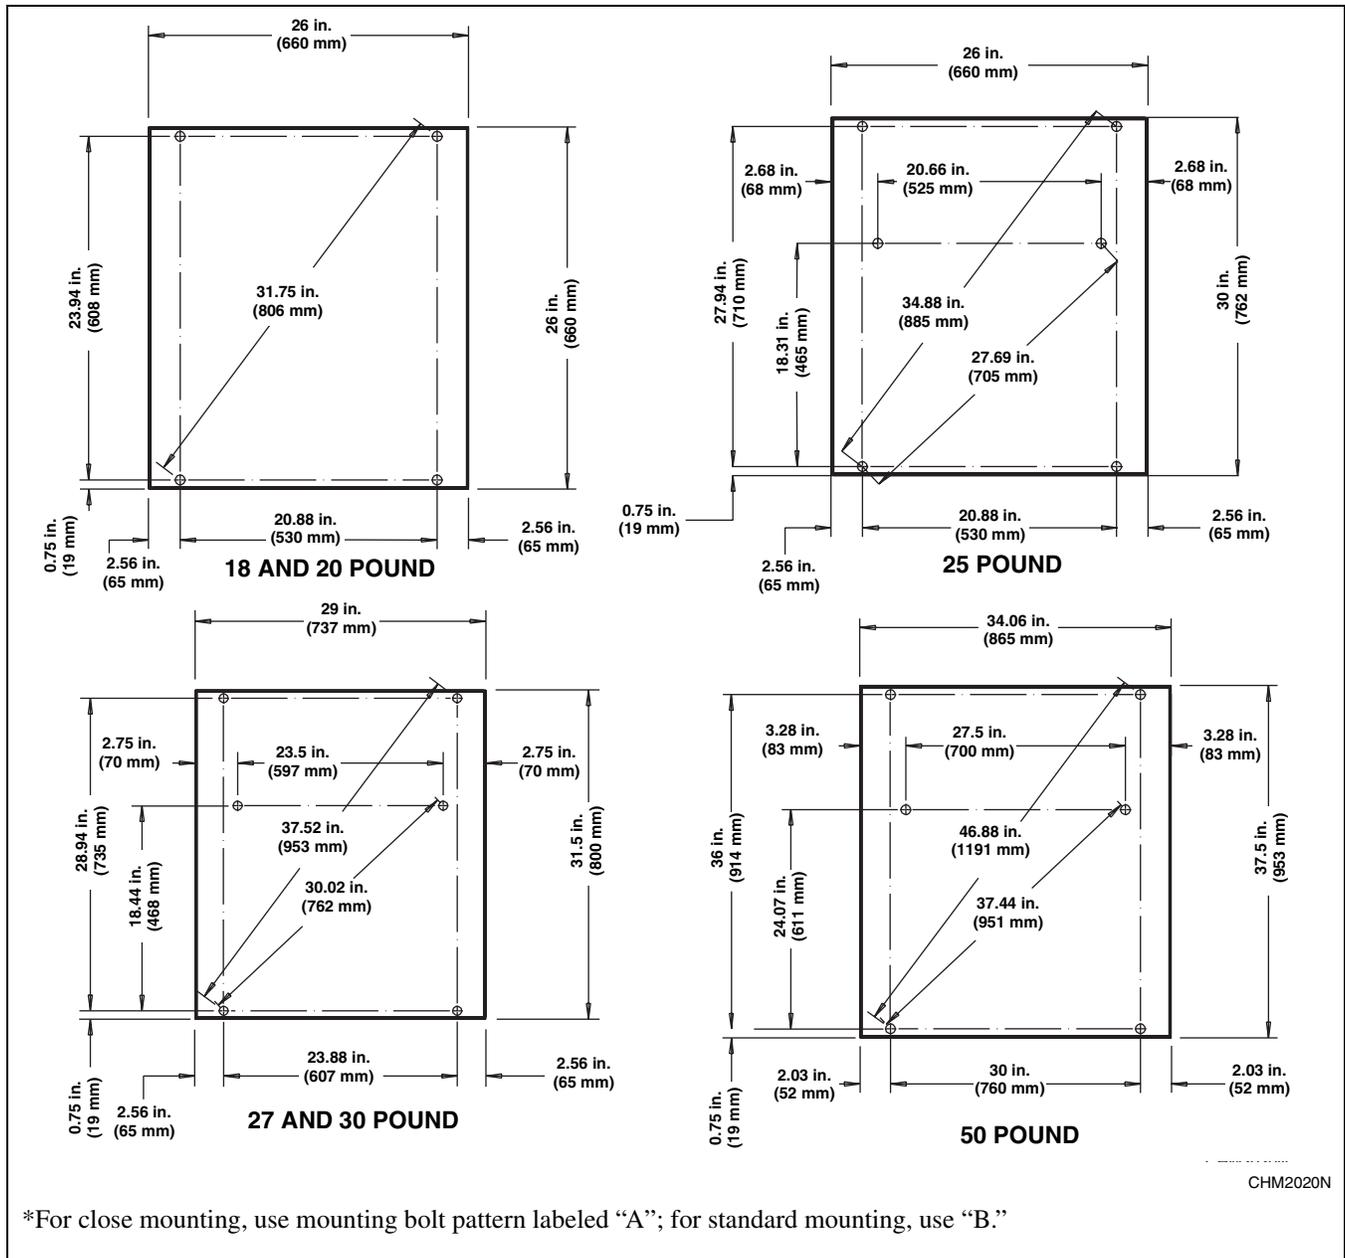
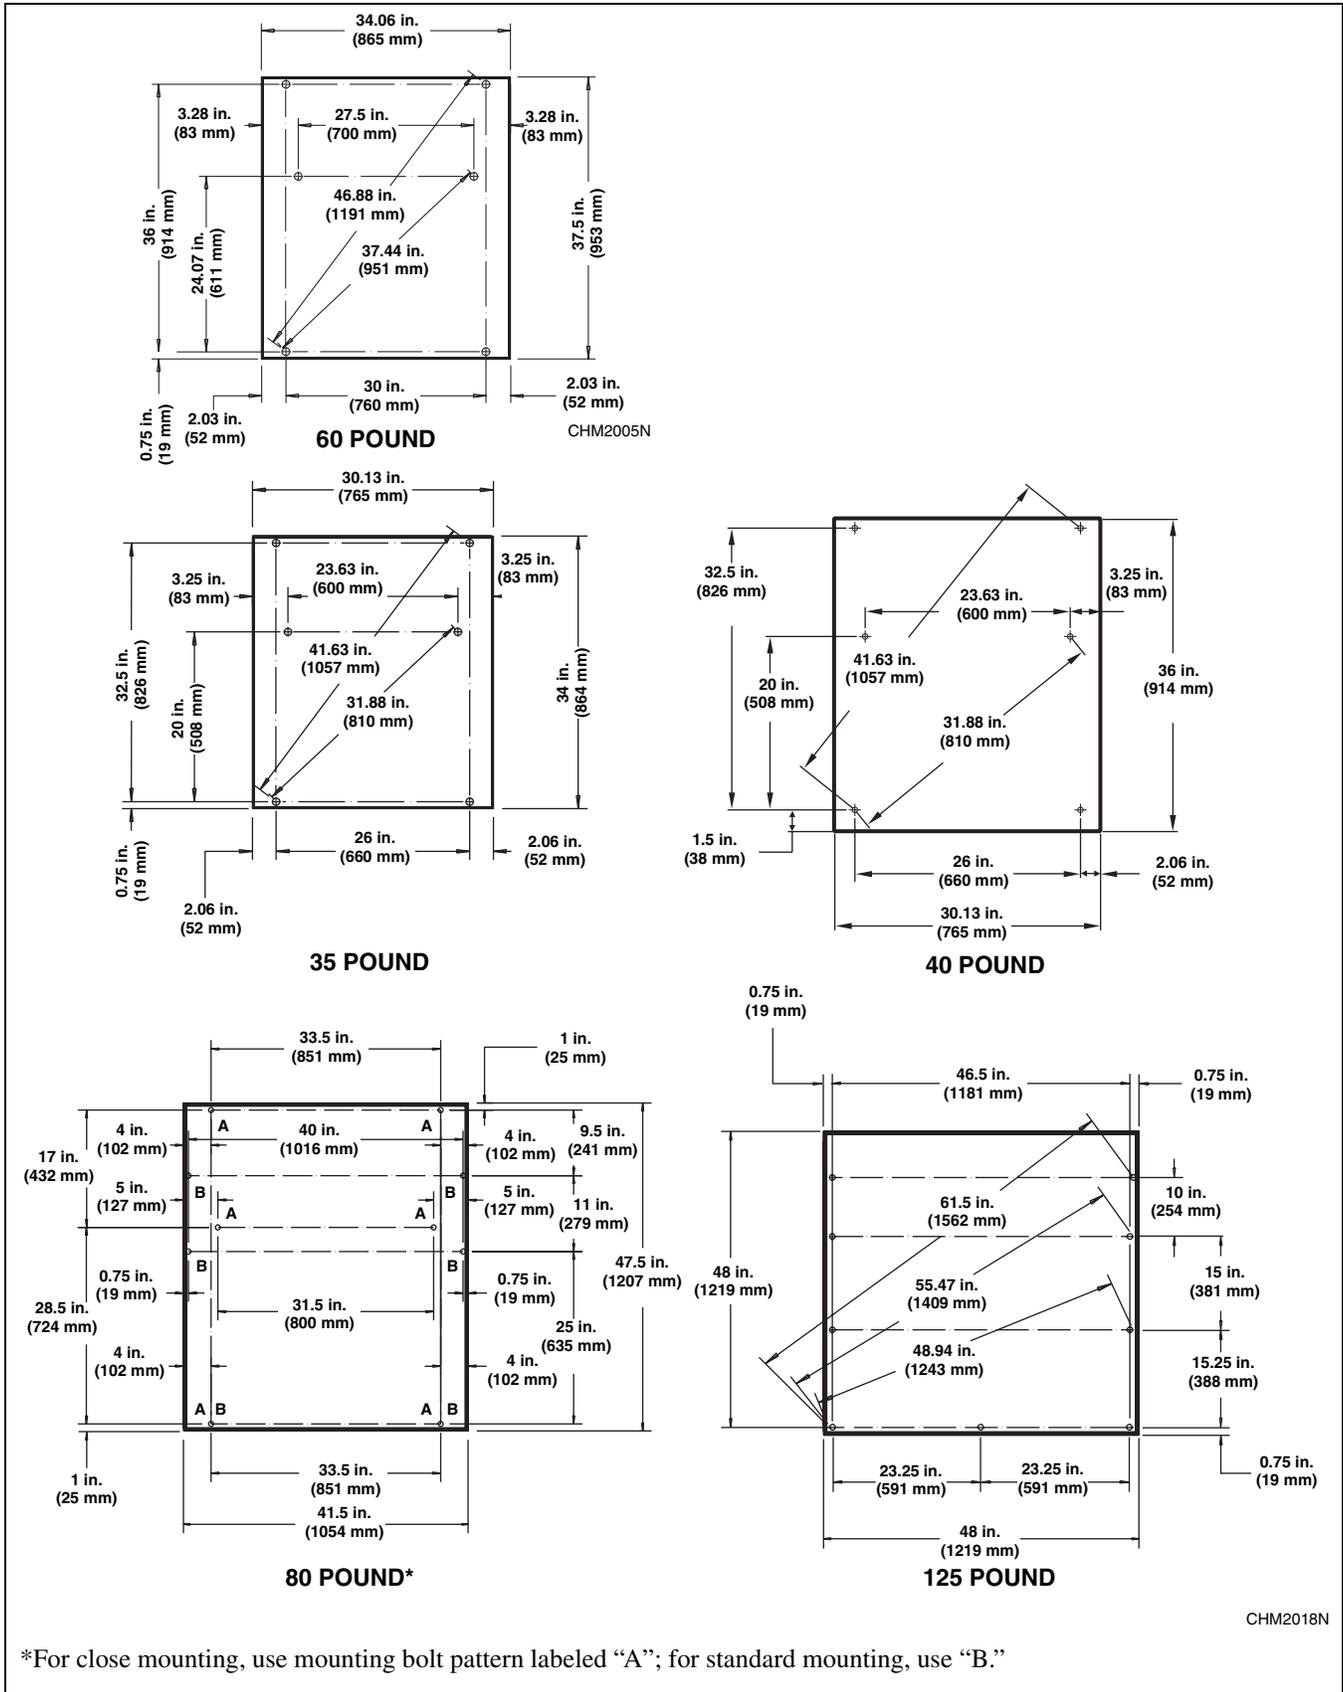

Figure 18
Figure 19
2. Install J-bolts in concrete as shown in the mounting bolt layouts (*Figure 18* and *Figure 19*) following these instructions.
NOTE: There are two different mounting bolt layouts which may be used for the 80 pound capacity machine. Refer to *Figure 19*. The bolt holes marked "A" are to be used for close mounting – machines installed with a 1 inch (25.4 mm) clearance between machines. The bolt holes marked "B" are to be used for standard mounting – machines installed with a minimum clearance of 8 inches (203 mm) between machines.